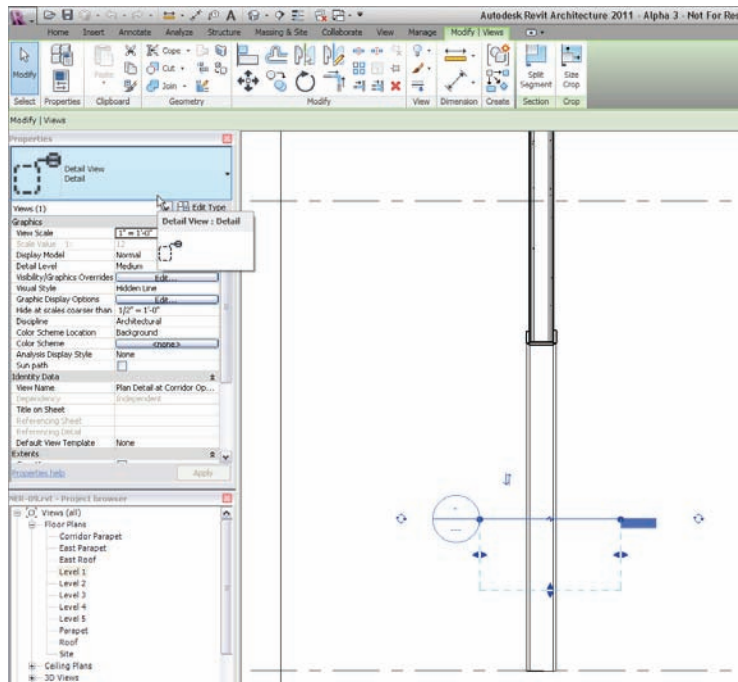

FIGURE 3.56 Creating a plan section detail
5. Place a section horizontally below the head of the opening, as shown in Figure 3.56. Make sure the section is flipped so it is looking downward.